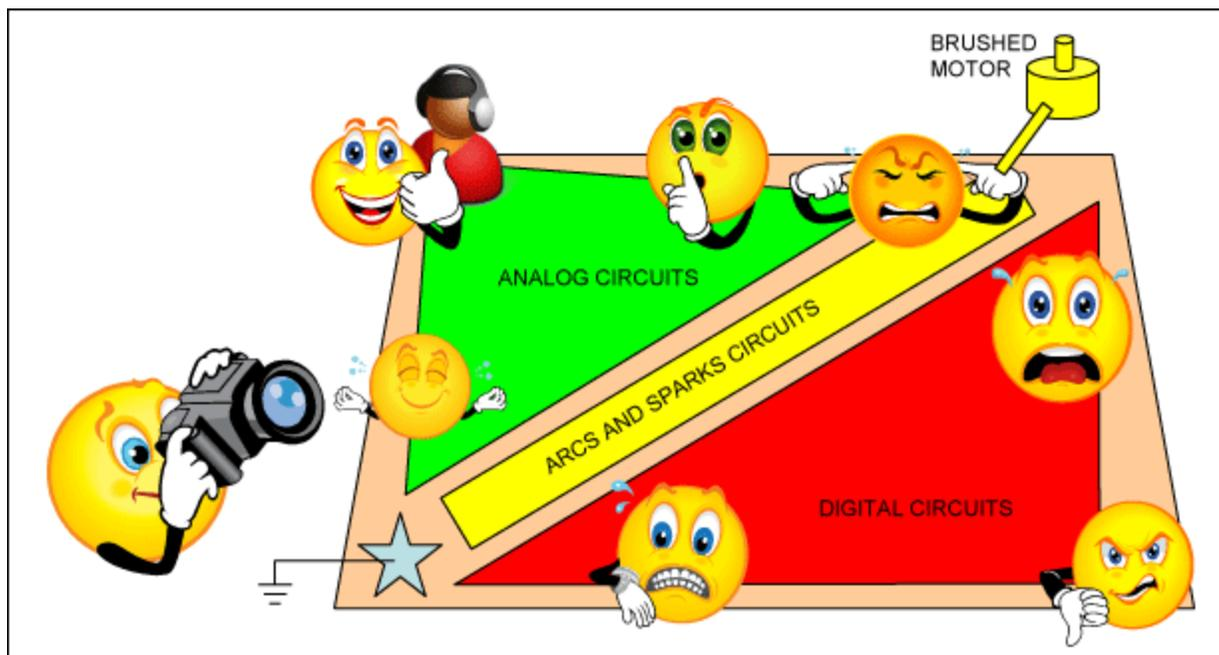
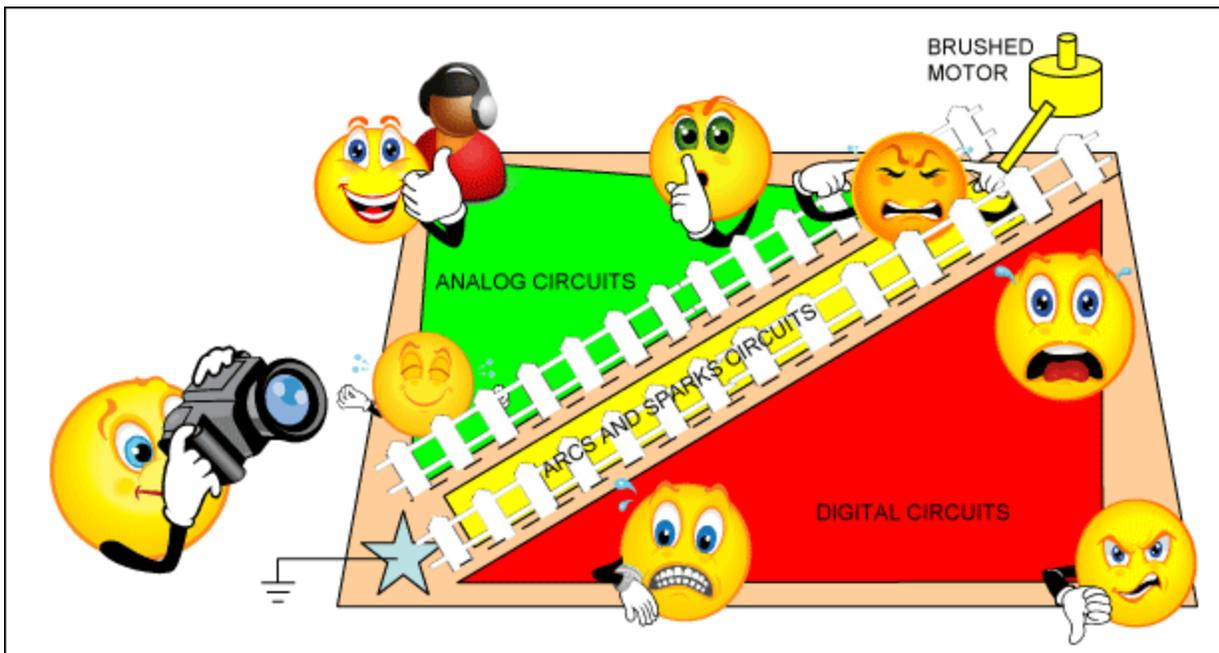

Figure 5b. Adding an arcing, sparking brushed motor to the ground plane.
Figure 6b. Two fences isolate the circuits.
**Figure 5b** compounds the problem by adding a brushed motor with arcing brushes. These sparks are large enough in amplitude to cause errors in the digital circuits despite the thresholds.
Return now to the arcing, sparking motor in Figure 5b. **Figure 6b** addresses this challenge with two fences.